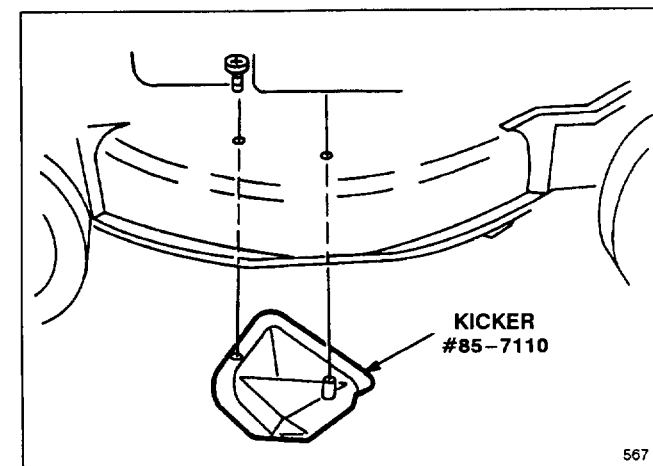

Figure 14
5. Position kicker #85-7110 as shown in Figure 14. Repeat step 3 to secure kicker to deck.